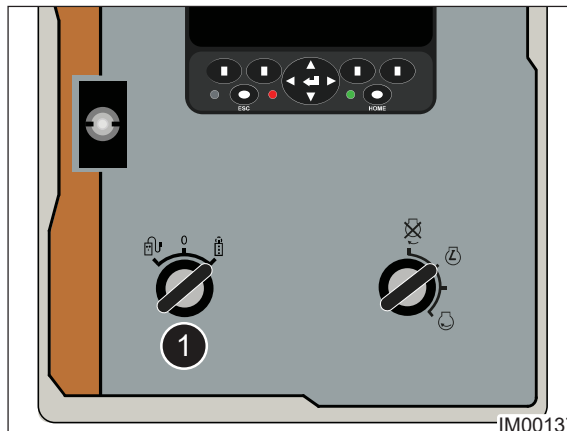

Fig: 8.13 - Track Switch - Radio Remote Position
5. Rotate the Track Switch clockwise to the Radio Remote Handset position (Item 1, Fig: 8.13).